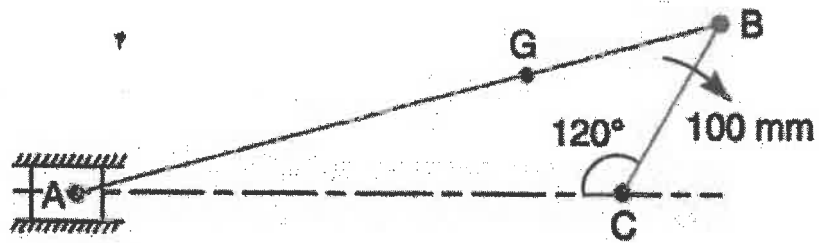

Fig.1
- 14 An engine mechanism is shown in Fig.1. The crank  $CB = 100$  mm and the connecting rod  $BA = 300$  mm with centre of gravity  $G$ , 100 mm from  $B$ . In the position shown, the crankshaft has a speed of 75 rad/s and an angular acceleration of 1200 rad/s2. Find: 1. Velocity of  $G$  and angular velocity of  $AB$ , and 2. acceleration of  $G$  and angular acceleration of  $AB$ . (10M)